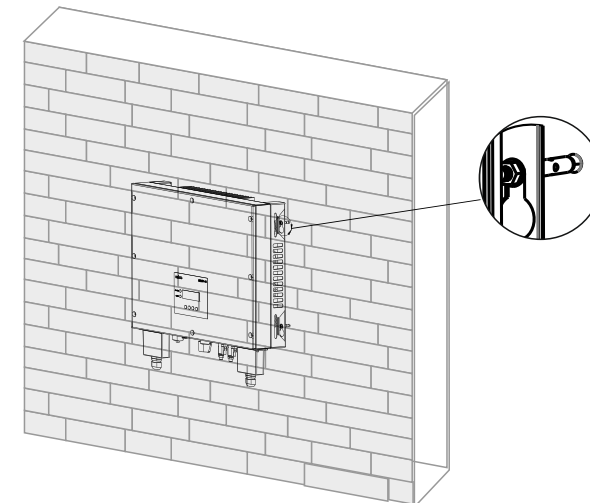

Fig 10
Step2 : Mount inverter on anchor bolt with help of at least two people. Tighten the nut and ensure inverter is properly fitted on anchor bolt as per fig 10.